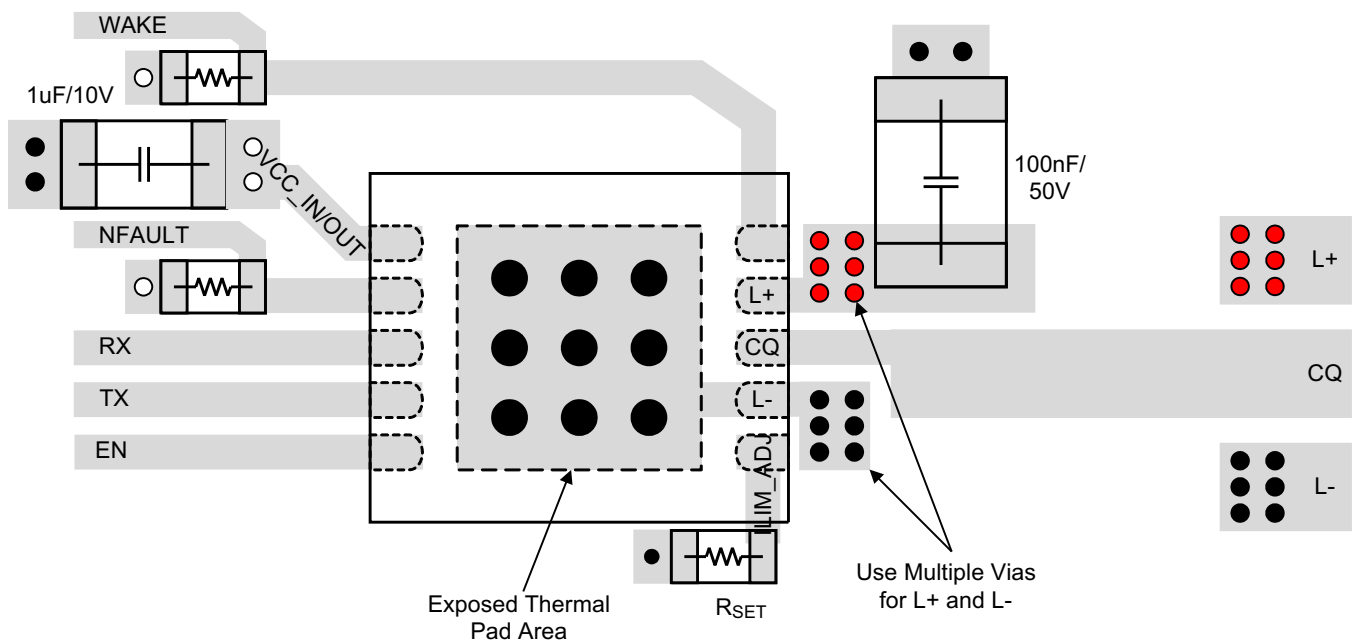

图 31. Layout Example
- The optimum placement of the capacitor is closest to the transceiver's L+ and L- terminals to reduce supply drops during large supply current loads. See Figure 31 for a PCB layout example.